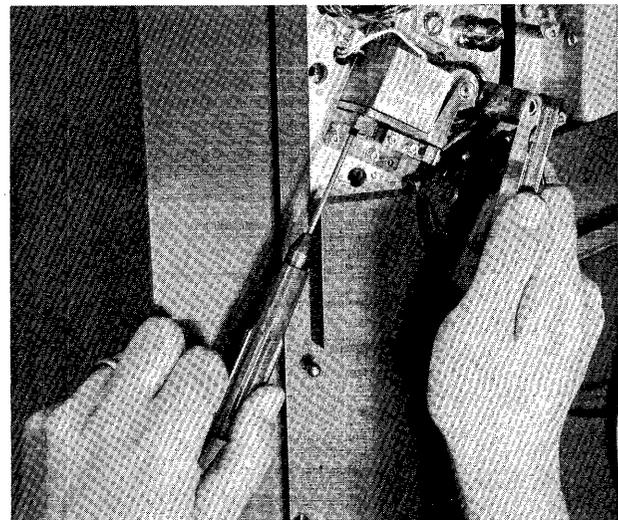

Figure 6-14
Step 7: Establish a 0.004" gap between the pinchroller and capstan by adjusting the back stop screw (Fig. 6-14). Restart the machine and check for proper tape drive.